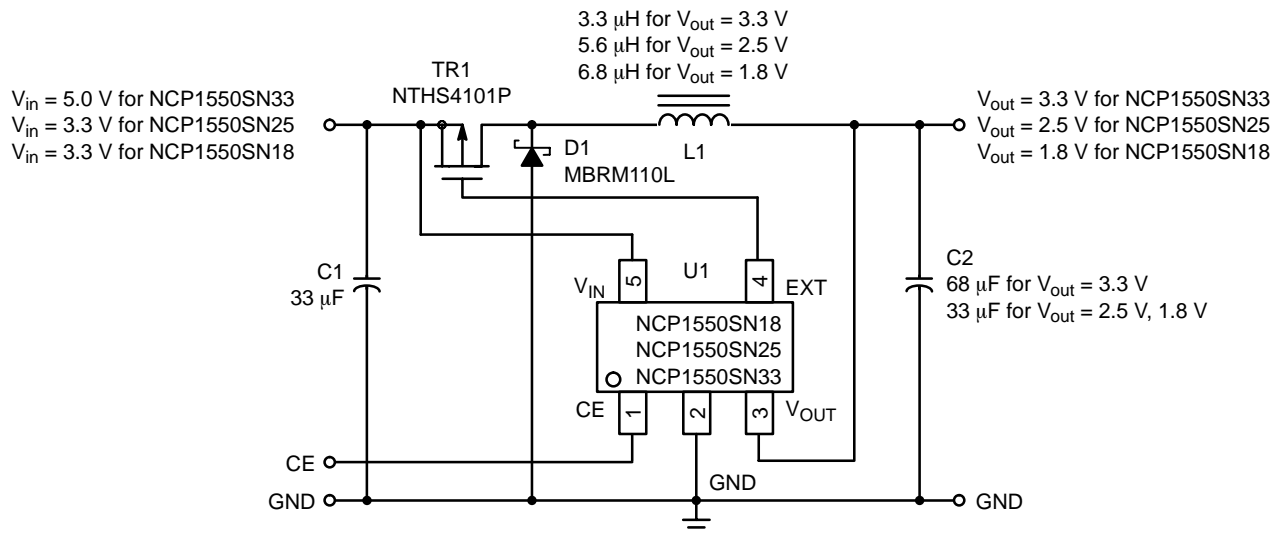

Figure 1. Simple Buck Controller for Converting 1.8, 2.5, or 3.3 V from 3.3 or 5.0 V
Alternatively, the circuit in Figure 1 shows a simple, five pin (Thin SOT-23-5), buck controller. For the design that provides 2.5 V at 1.0 A from a 3.3 V input, the efficiency is **88% at 1.0 A**. The output ripple voltage for this circuit is 30 mVp-p. This circuit also does not require external compensation and can be disabled to shut off the load with its chip enable (CE) pin. All of this makes this solution about as simple to implement as it's rival, the LDO.
The 10 V Schottky starts showing its benefits as the duty cycle of the circuit decreases and it conducts more current. For instance, since voltage levels continue to lower, a 1.8 V rail may be necessary. This solution still outperforms the LDO. For instance, if you wanted to supply 1.8 V at 1.0 A from the 3.3 V rail, an LDO would have a best-case efficiency of 1.8 V/3.3 V which equates to approximately 55% with a power dissipation of 1.5 W. The circuit from Figure 1 with the above conditions has an efficiency of 83% at 1.0 A.
**Table 1. Bill of Materials for Circuit from Figure 1**